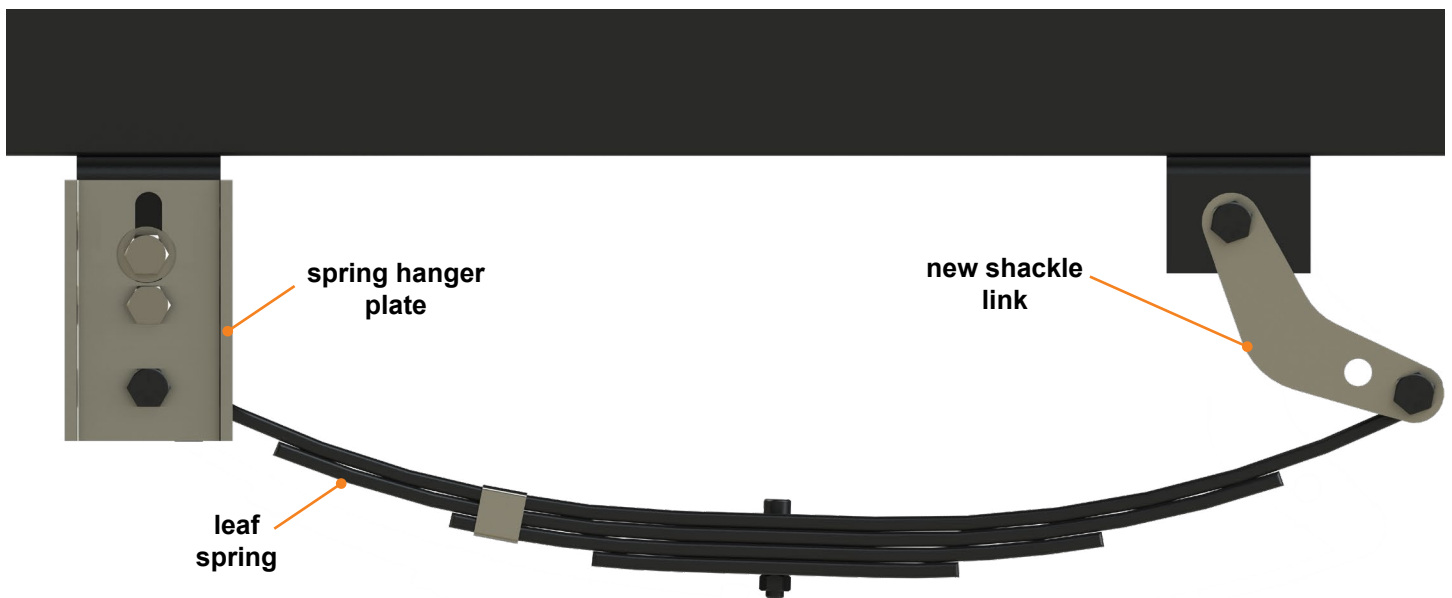

Fig.7
10. Once installation of the lift and axle is complete (**Fig. 7**), reinstall the wheels and apply lug nuts in a star fashion and torque as per manufacturer's specifications.